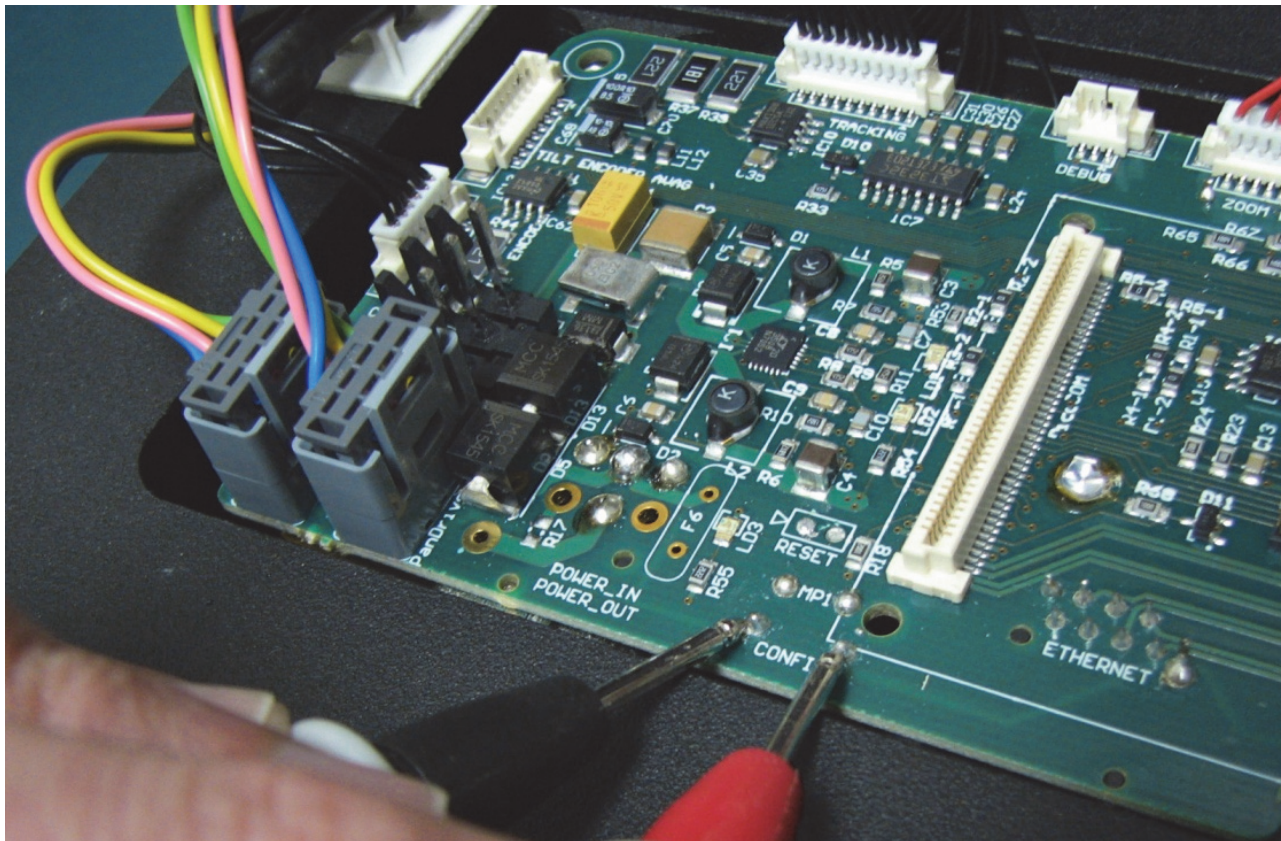

Figure 3 - Testing Continuity Across the CONFIG Switch.
2. On the main circuit board, test continuity across the **CONFIG** switch to determine whether the switch is **open** or **closed** (see Figure 3).